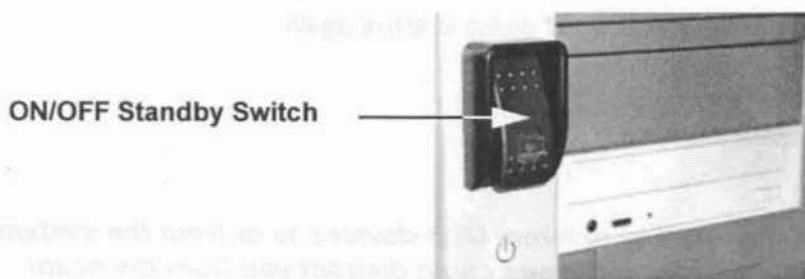

Figure 3-23 ON/OFF Standby Switch
- 1.) Press the ON/OFF Standby switch left below the Control Panel; see: Figure 3-23.